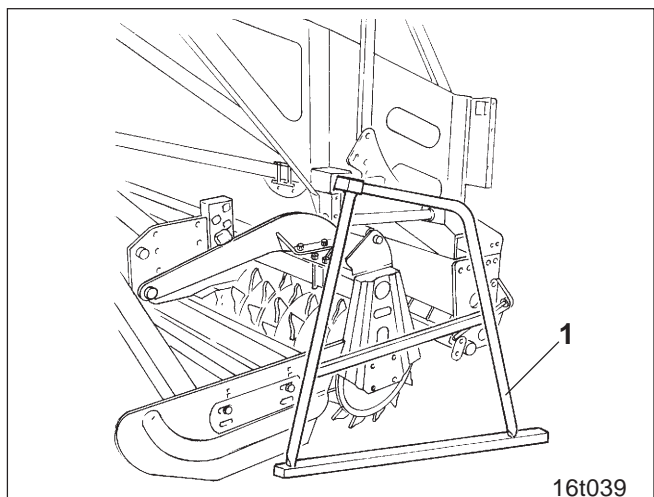

Fig. 22.6
- Raise the entire combination and remove storing supports (Fig. 22.6/1).